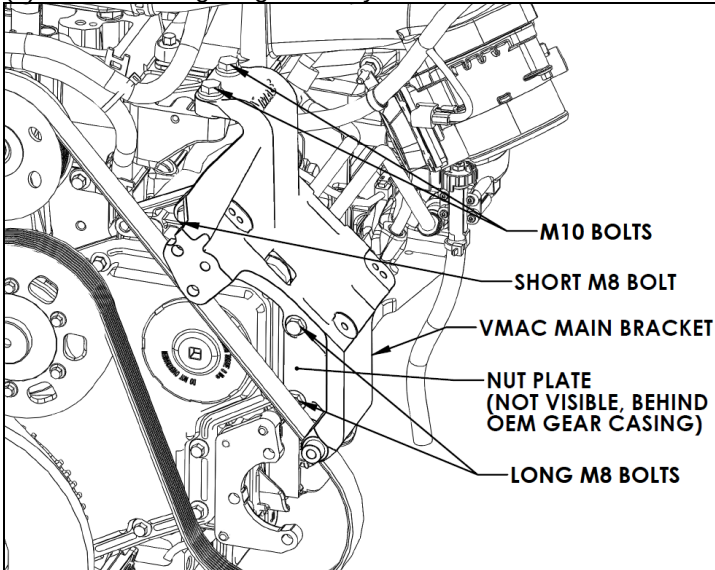

Figure 4.2 (some components omitted for clarity)
- ☐ Position VMAC main bracket as shown in Figure 4.2 and install (2) M10 bolts finger tight into cylinder head.